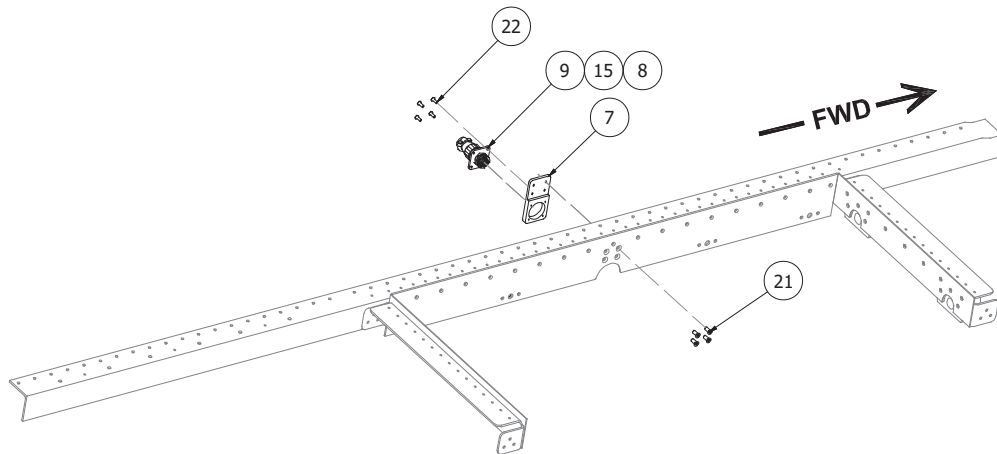

Figure 6
3. Fasten the wiring connector to the mounting clip using noted screws while it is free hanging per Figure 6.
4. Fasten the connector mounting clip to the backside of the baggage lip/top deck rail with noted fasteners per Figure 6.